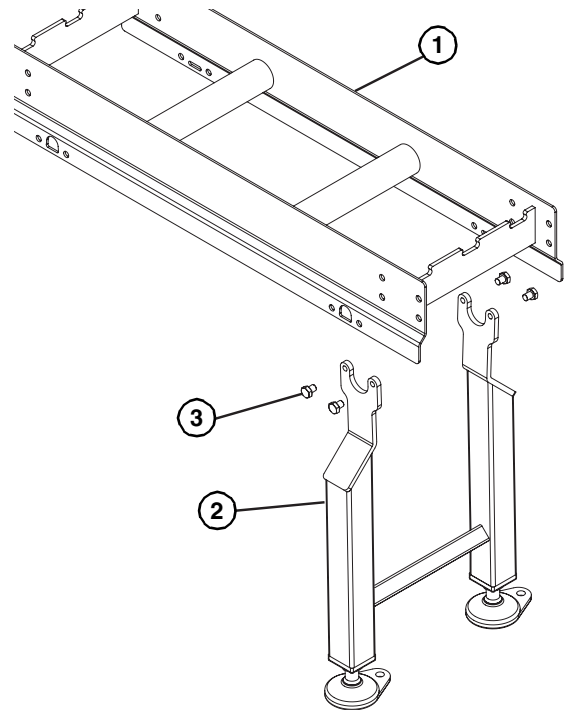

**Figure 8**
- Attach the flat connectors (**Figure 8, item 1**), if applicable, to the inside of the frame sections.